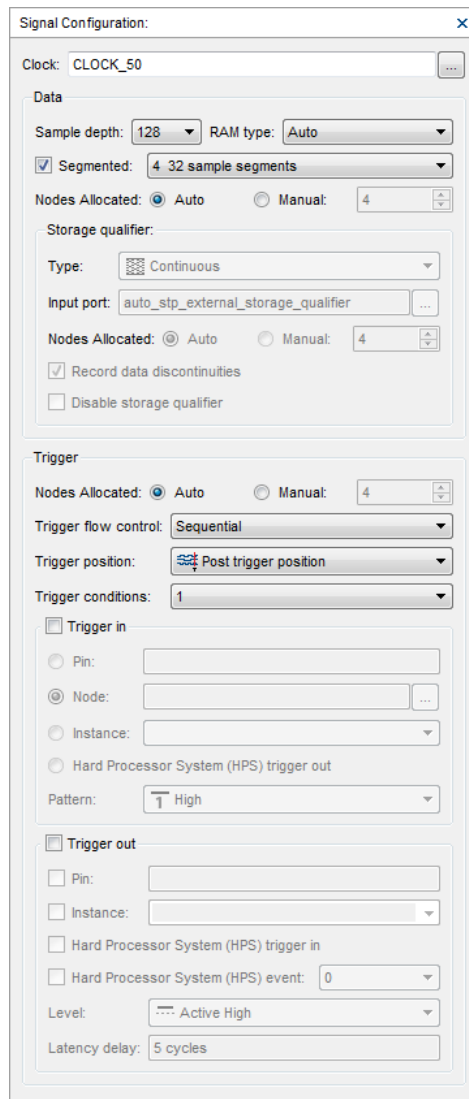

Figure 23. Select Segmented buffer acquisition mode with 4 32 sample segments.
3. In the Signal Configuration pane of the SignalTap II window, in the Data section of the pane check Segmented. In the dropdown menu beside Segmented, select 4 32 sample segments. This will result in a pane that looks like Figure 23.